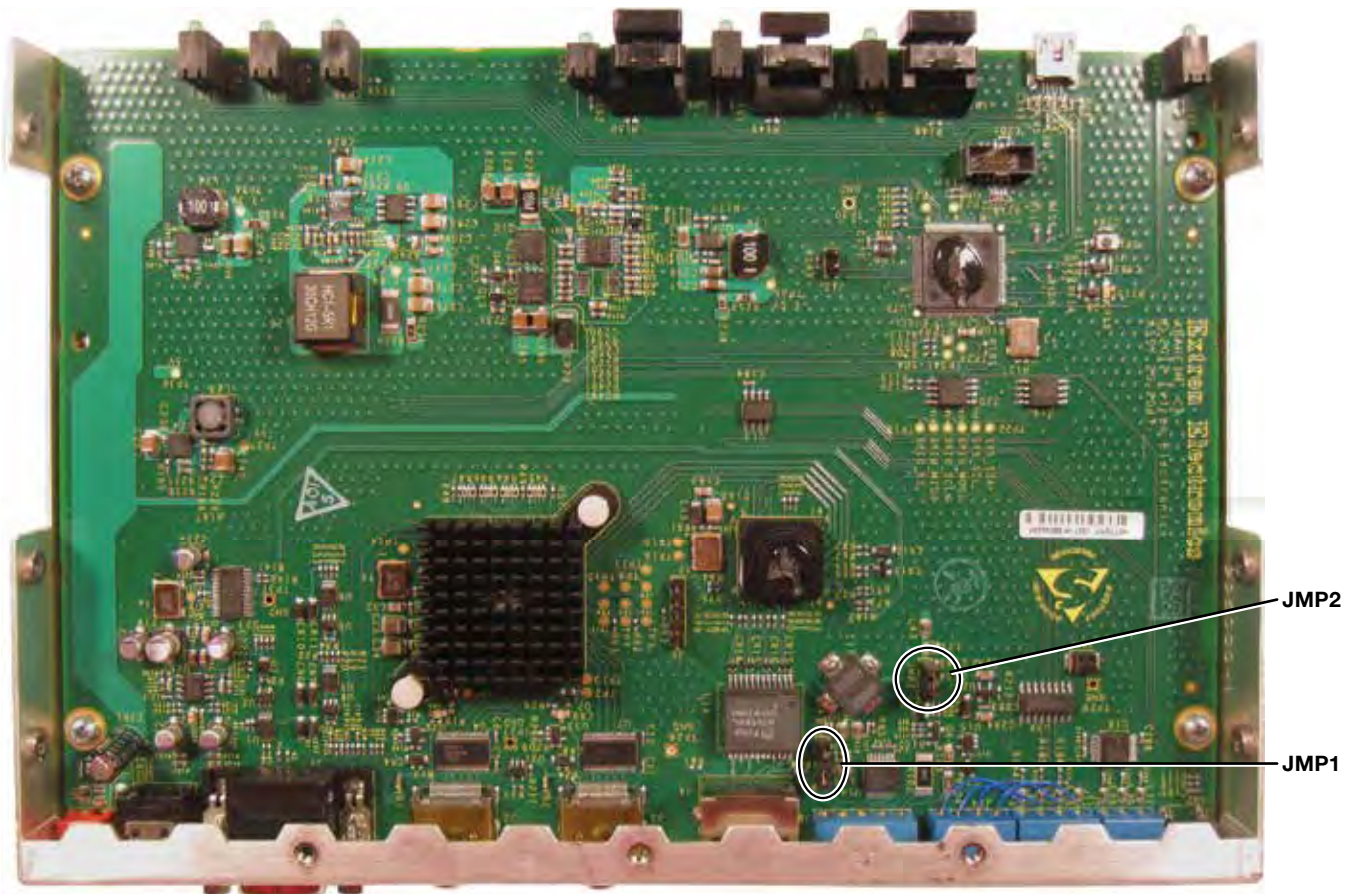

Figure 12. Jumper Locations
3. Locate and **lift off** jumpers JMP1 and JMP2 (see figure 12).